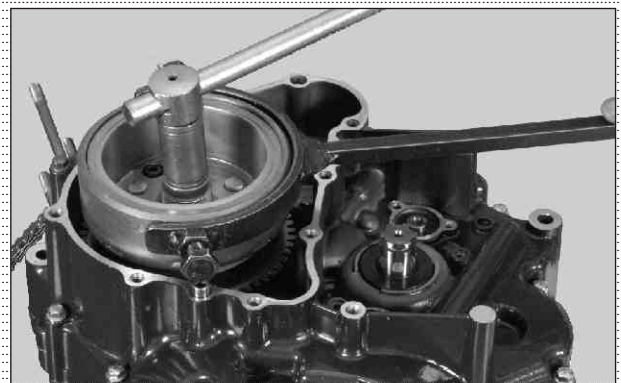

Fig. 3.89
- Using special tool hold the rotor assembly and remove hexagonal flange nut (M12x1.25) of rotor assembly mounting. (Fig. 3.89)